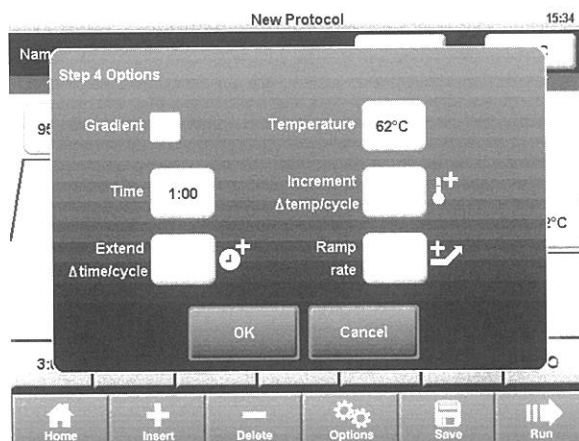

Figure 9. The Step Options window.
1. Select a step and touch **Options** to open the **Step Options** window (Figure 9).